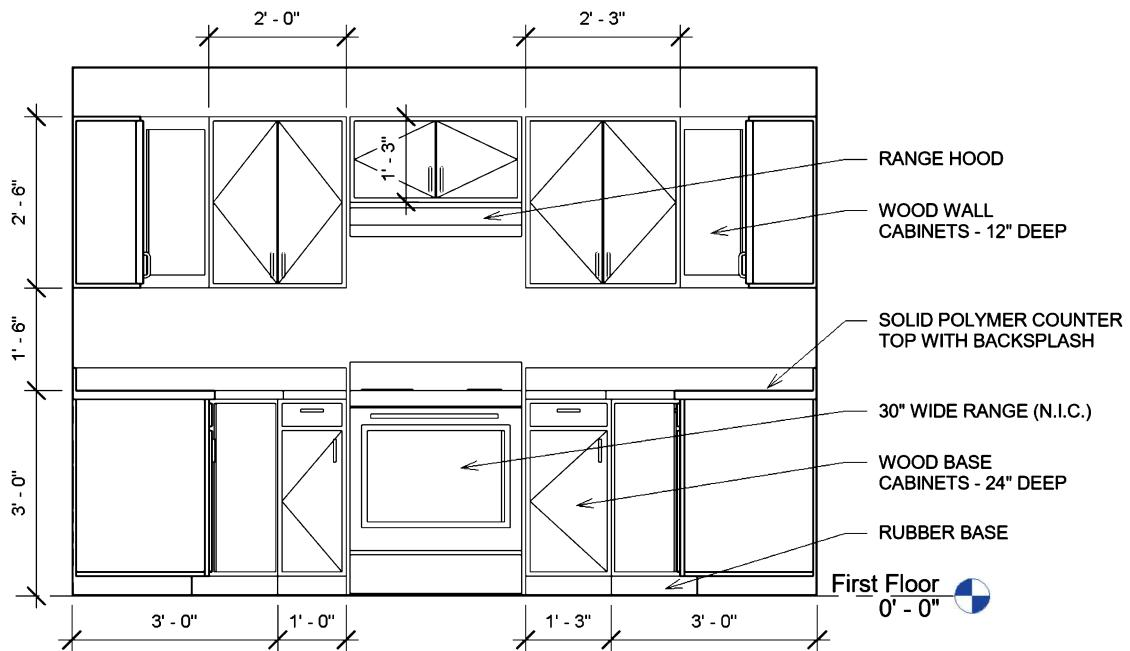

FIGURE 12-2.12 Interior elevation with annotations
25. Add the notes and dimensions per **Figure 12-2.12**.